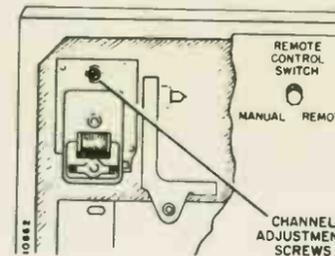

Figure 15. Rear View of Son-R Models Showing Channel Selection Screw Location.
3. Locate recessed hole above tuning motor mounting plate. Turn adjustment screw (visible through hole, figure 15) fully to the left (counterclockwise) until tight. Perform steps 2 and 3 for each non-operating channel.